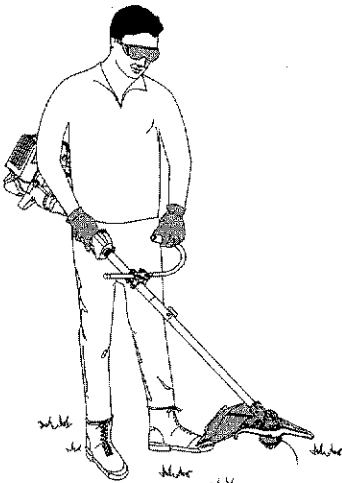

Fig. 3
6. Whilst holding the unit in the operating position (Fig. 3), position the J-handle to the location that provides you the best grip.